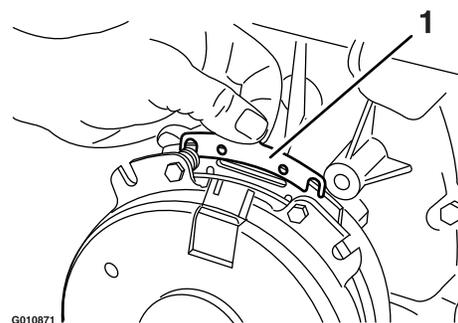

Figure 69
- B. Using needle-nose pliers, or by hand, hold the tab and remove the shim (Figure 69).
Remove any buildup of grass, dirt, or other debris from the engine screen. This helps ensure adequate cooling and correct engine speed and reduces the possibility of overheating and mechanical damage to the engine (Figure 69).